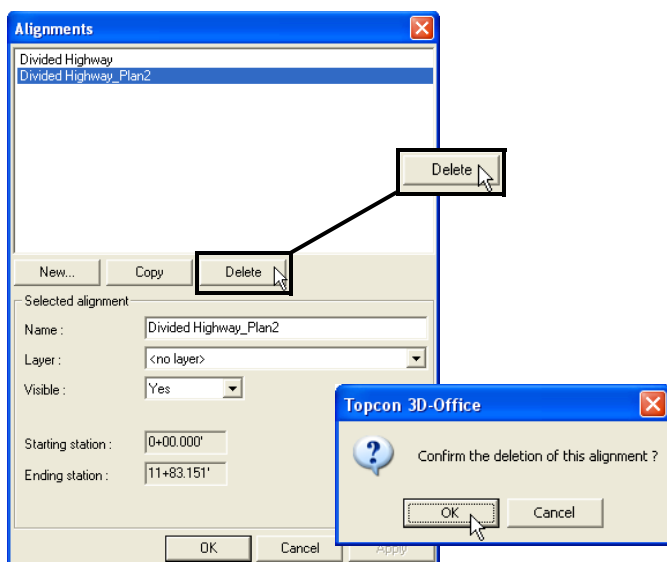

Figure 6-17. Delete Alignment
1. On the **Alignments** dialog box, select the alignment to delete and click **Delete** (Figure 6-17).
2. Click **OK** to confirm the deletion (Figure 6-17).